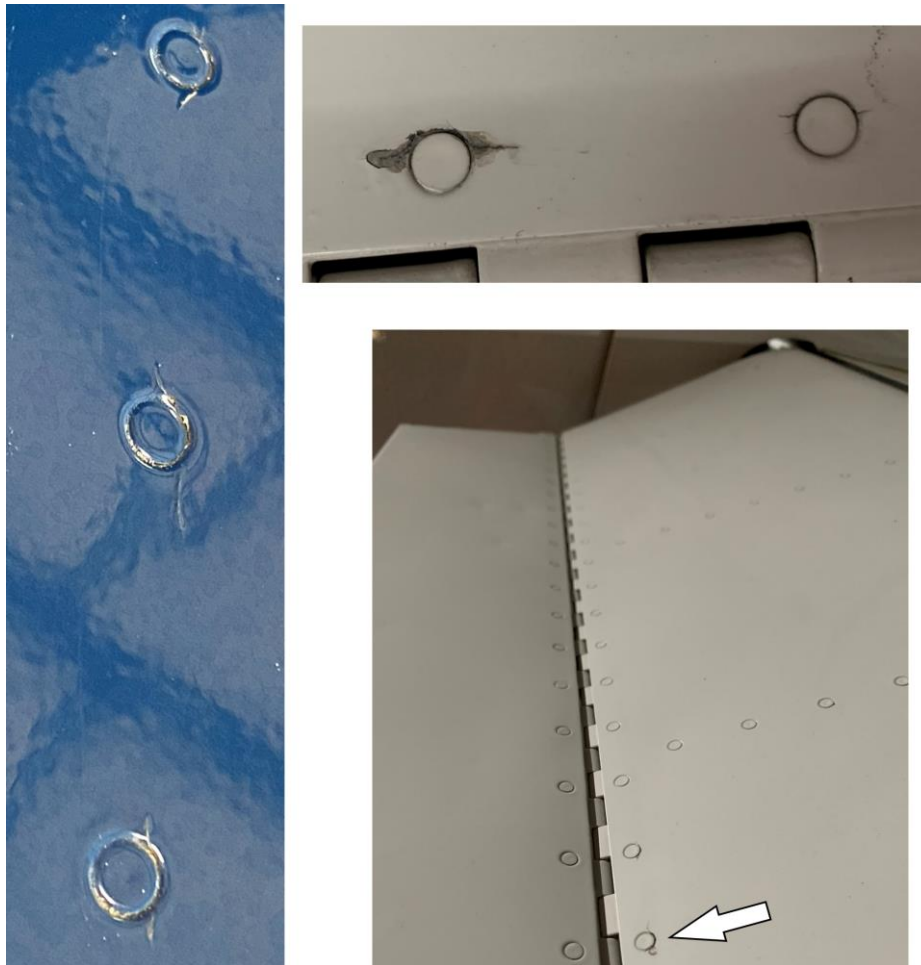

FIGURE 1: CRACKED ELEVATOR SKINS ON RV-10 AND RV-14A
Data from the field shows that the elevator skins on the RV-10 and RV-14/14A can crack around the rivets where the E-1007/E-00907 Rear Spar is attached. See Figure 1 below for visual examples of cracks.
Step 2: Inspect the skin around these rivets for cracks, both on the upper and lower surfaces of the elevator. See Figure 1.